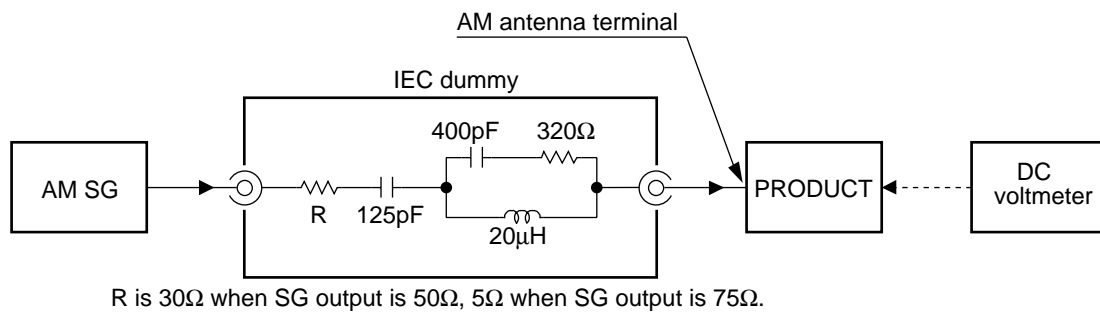

Fig. 1 SW adjustment wiring diagram
- Connect the wiring as shown in Fig. 1.
Before adjustment, connect AM-ANT. and IEC-dummy ANT.. Signal input is through IEC-dummy ANT.. Connecting AM-ANT. follows Fig. 1.